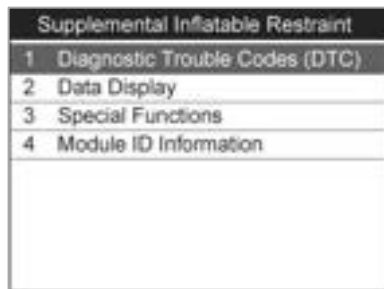

Figure 9.26
- 1) From the diagnostic function menu (Figure 9.26) use the **UP/DOWN** scroll button to select **Diagnostic Trouble Codes (DTC)** and press the **OK** button.
- 1) From the diagnostic function menu (Figure 9.26) use the **UP/DOWN** scroll button to select **Diagnostic Trouble Codes** and press the **OK** button.
- 1) From the diagnostic function menu (Figure 9.26) use the **UP/DOWN** scroll button to select **Data Display** and press the **OK** button.
- 1) From the diagnostic function menu (*Figure 9.26*) use the **UP/DOWN** scroll button to select **Special Functions** and press the **OK** button.
- 1) From the diagnostic function menu (Figure 9.26) use the **UP/DOWN** scroll button to select **Module ID Information** and press the **OK** button.